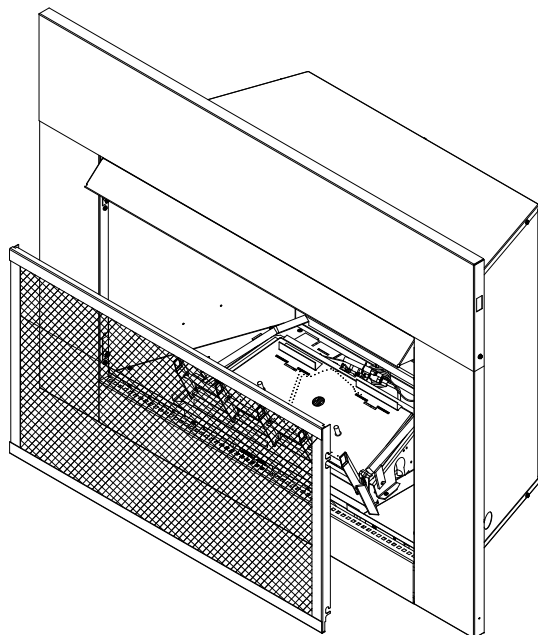

Figure 10 -
2. Align canopy with the holes in the top frame assembly. *Figure 10*
3. Install the three (3) screws (in owner's manual packaging) which attach the canopy to the top frame assembly. *Figure 10*